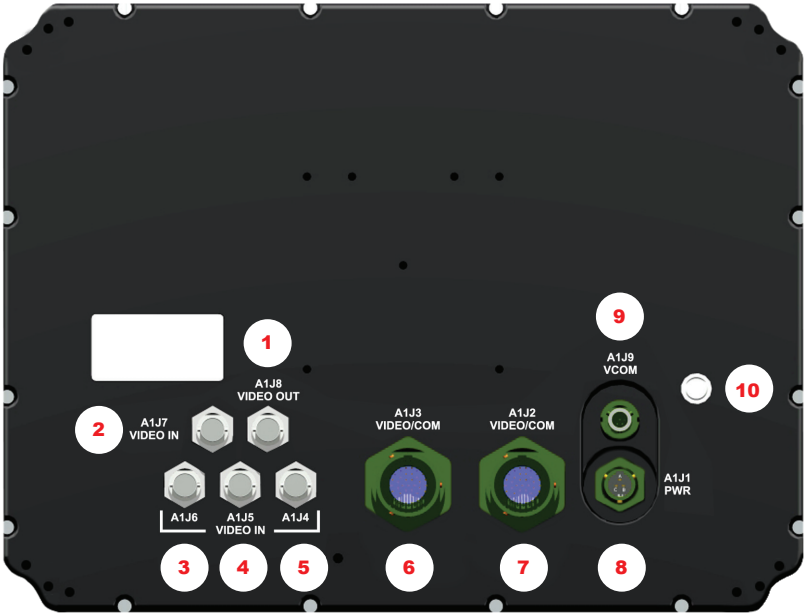

FIGURE 1
The DOT Connectors are fully sealed, and the chassis meets IP67/NEMA 6. From left to right, see Figure 1, Table 1 for connector assignments.
- Align up with A1J1 connector; See Figure 1, #8
- Align with A1J2 or A1J3 connector; See Figure 1, #7, #6
- Align with A1J4-A1J7 - IN connector; See Figure 1; #5, #4, #3, #2
- Align with A1J8 - OUT connector; See Figure 1, #1
- Align with A1J9 - VCOM connector; See Figure 1, #9